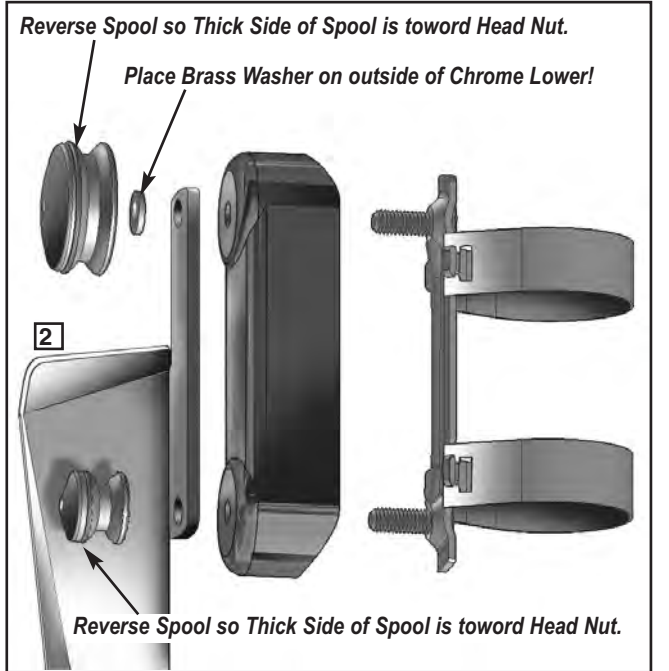

Figure 2 Kit Q141
3. Select the appropriate Chrome Lower for the left or right side of the motorcycle. Place Chrome Lower on stud of Spider. Place Brass Washer to the outside of Chrome Lower on Upper Stud. Start the Upper and Lower Spool assemblies. (5/32" Hex Key) **Figure 2.**